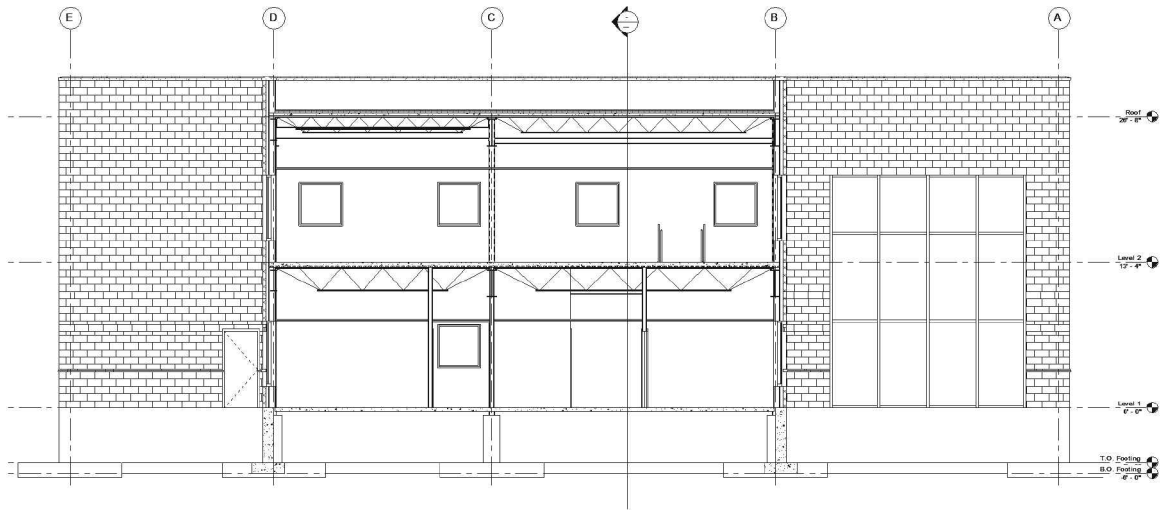

FIGURE 10-3.5 Cross Section 1
12. Set the *Detail Level* to **Medium** and turn off the **Crop Region** visibility via the *View Control Bar* (Figure 10-3.5).